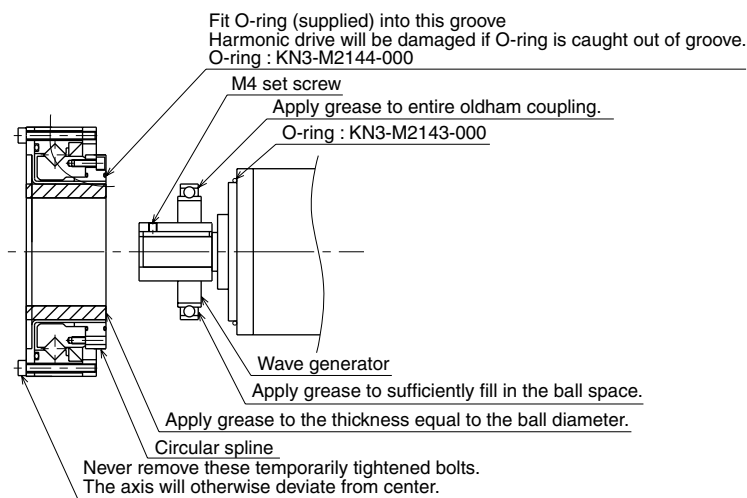

Fig. 5-27
- 8) Remove the wave generator from the motor shaft. The wave generator is secured with an M4 set screws. (See Fig. 5-27.)
- 15) Fit an O-ring (supplied with the harmonic drive) coated with harmonic grease into the O-ring groove on the new harmonic drive. (See Fig. 5-27.)
- 17) Apply harmonic grease to the new wave generator and flexible spline. See Fig. 5-27 for applying grease properly.
- 18) Fit the wave generator onto the motor shaft, and fully insert it against the motor. Then, apply small amounts of “Screw Lock” to the M4 set screw (1 piece) you removed earlier and tighten it to secure the wave generator. (See Fig. 5-27.)
- 19) Fit a new O-ring to the motor and tighten the bolts (M5×14L, 4 pieces) you removed earlier to temporarily secure the motor to the Y-axis arm. (See Fig. 5-23 and Fig. 5-27.)